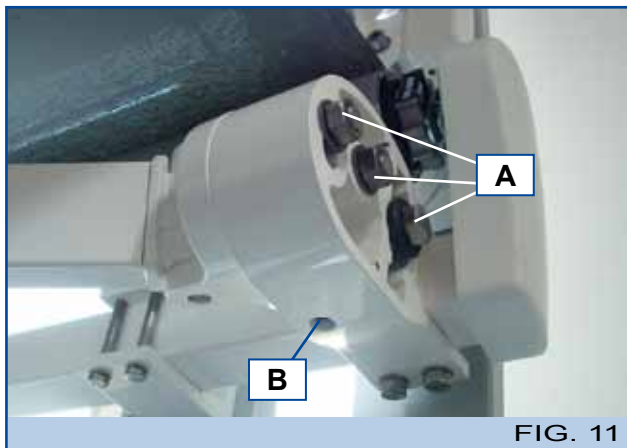

FIG. 11
9 ▫ Adjust the inclination of the awning using the relevant Allen key on the screws (B - Fig.11). Repeat for both arms.
10 ▫ Using a level (C), check that the terminal is horizontal. If not, adjust the support screw (B, Fig. 11) for the arm that is not level, following the procedure described above. Once the desired inclination has been achieved, tighten the screws (A - Fig. 11).